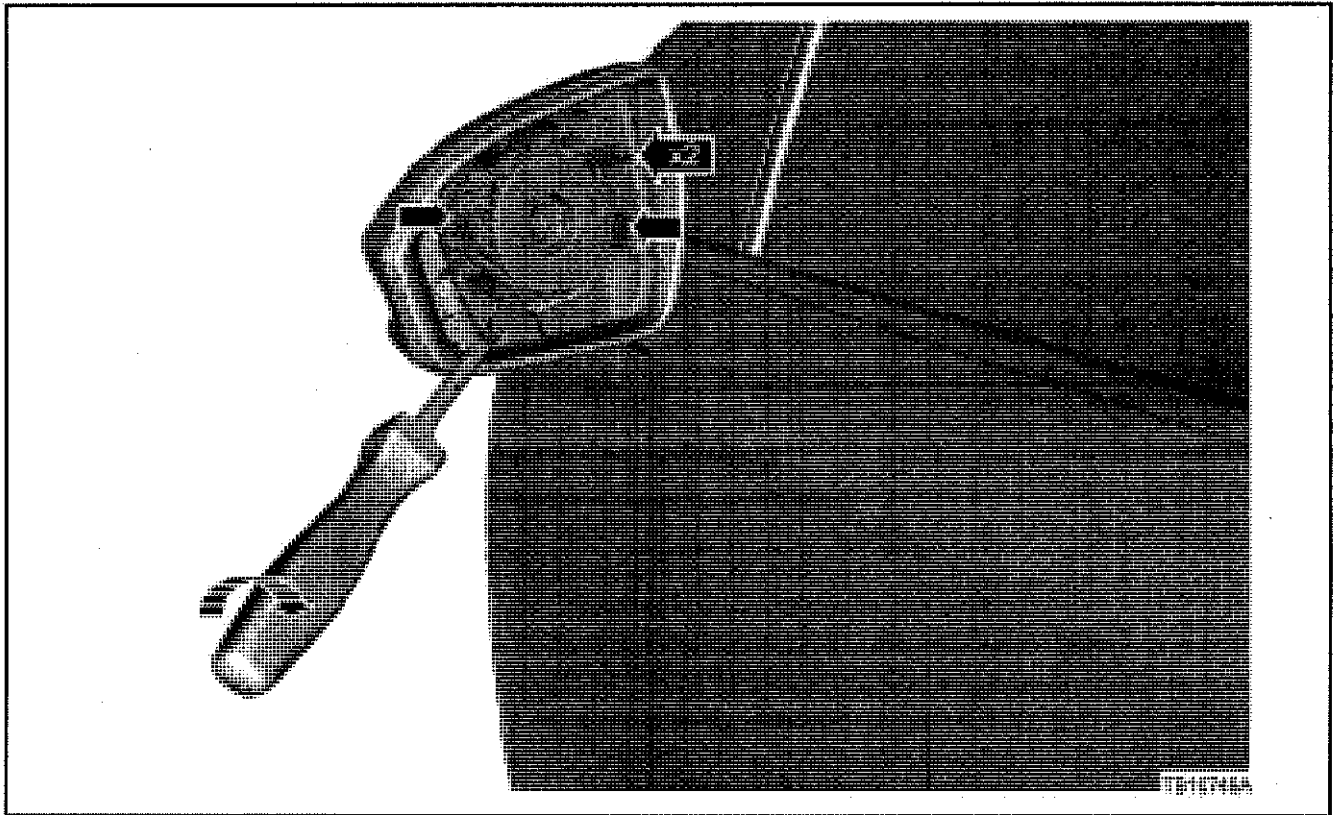

Figure 2 - Article 15-0135
2. Release the mirror glass and disconnect the electrical connectors. Use of a non-marring plastic trim tool is recommended to release the mirror glass. (Figure 2)